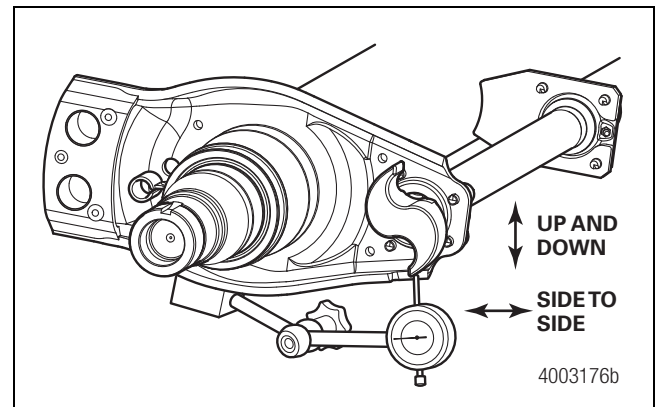

Figure 4.6
- Check the up-and-down and side-to-side end play of the camshaft. If total movement is more than 0.030-inch (0.76 mm) in either direction, replace the bushings or camshaft as detailed in Section 11. Figure 4.6.